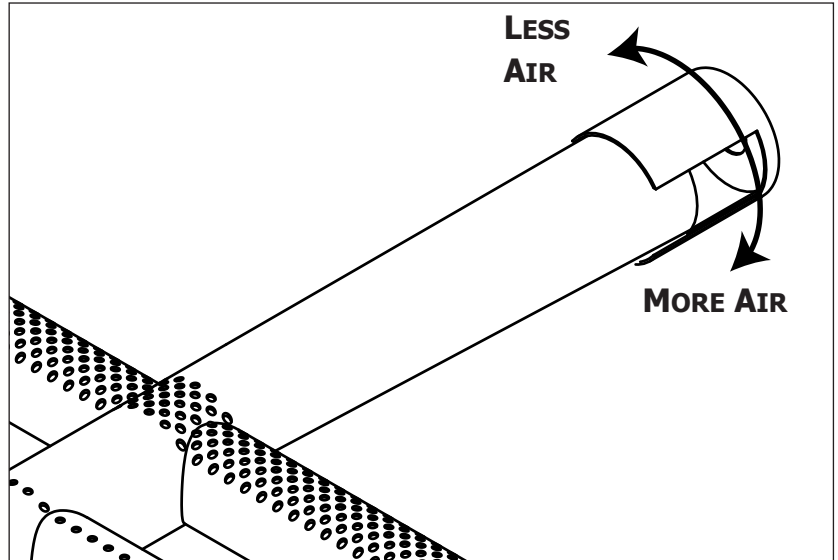

Figure 9: Shutter Cap Adjustment
2. At the back of the burner (where the burner connects to the burner orifice), there is a single Phillips head screw that should be loosened. This will allow for adjustment of the burner cap (see Figure 9).